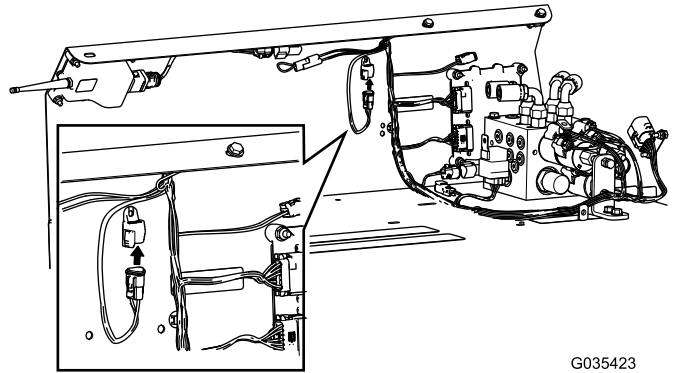

Figure 14
5. Plug the CAN diagnostics connection into the previously installed wire-harness cap (Figure 14).